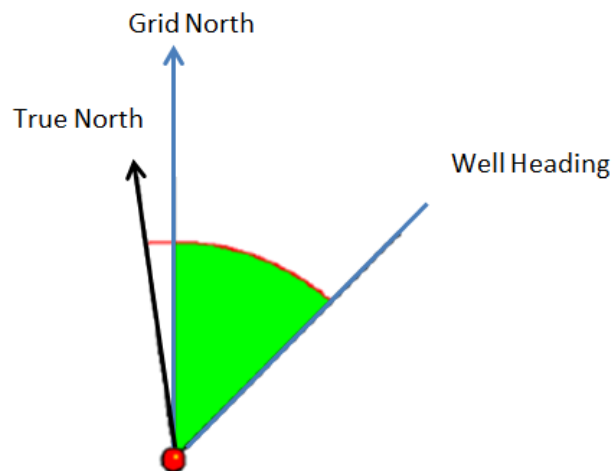

Figure 59 Grid Correction
3. In the Example below in the Figure 59